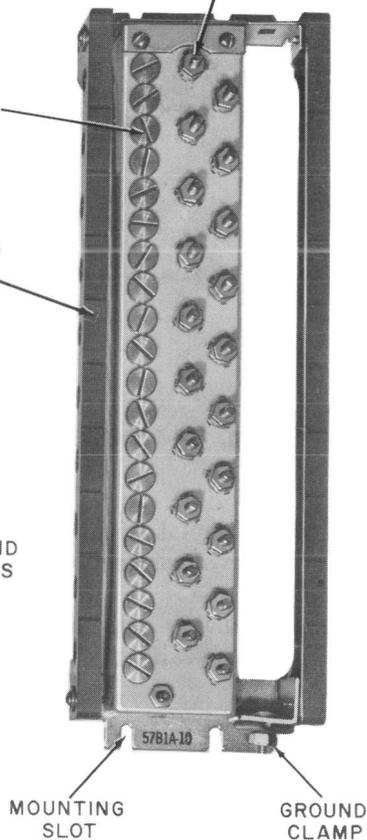

Fig. 4—57B1A-10 Connecting Block
2.05 57B1A-Type Connecting Blocks (Fig. 4):